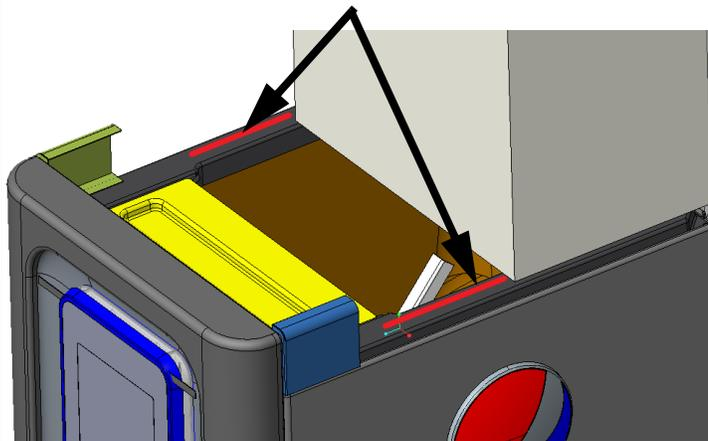

Figure 2.
1. Clean the surfaces thoroughly then apply 2 thick beads of silicone about 10" long as shown in Figure 2.